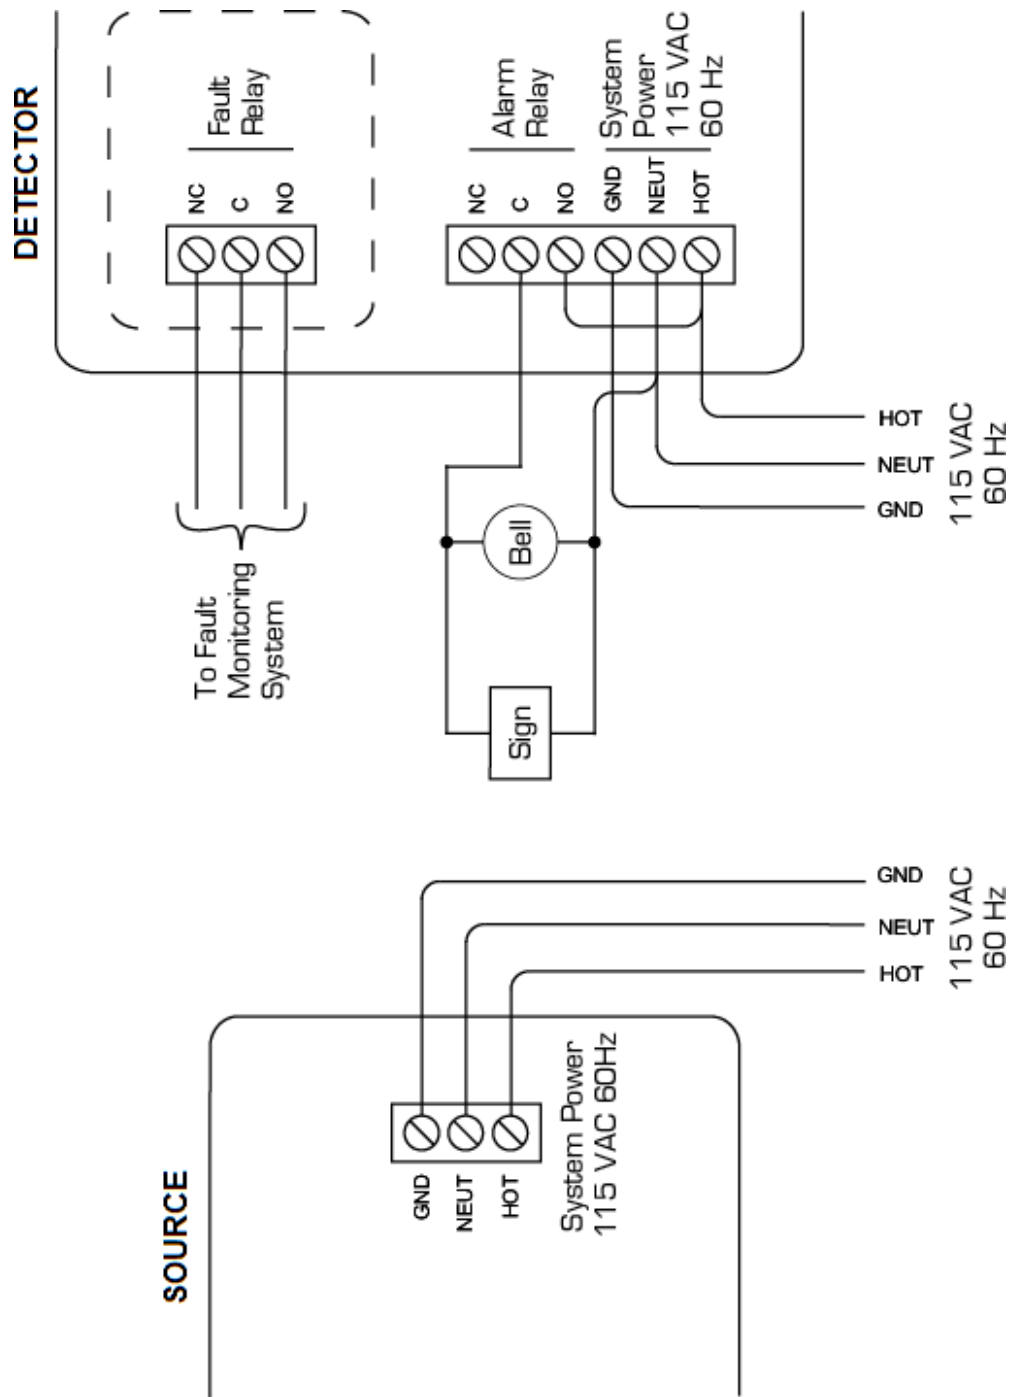

Figure 2 Suggested Wiring
- Figure 2: Suggested Wiring 9
1. Refer to **Figure 2**, Suggested Wiring, for the following steps.